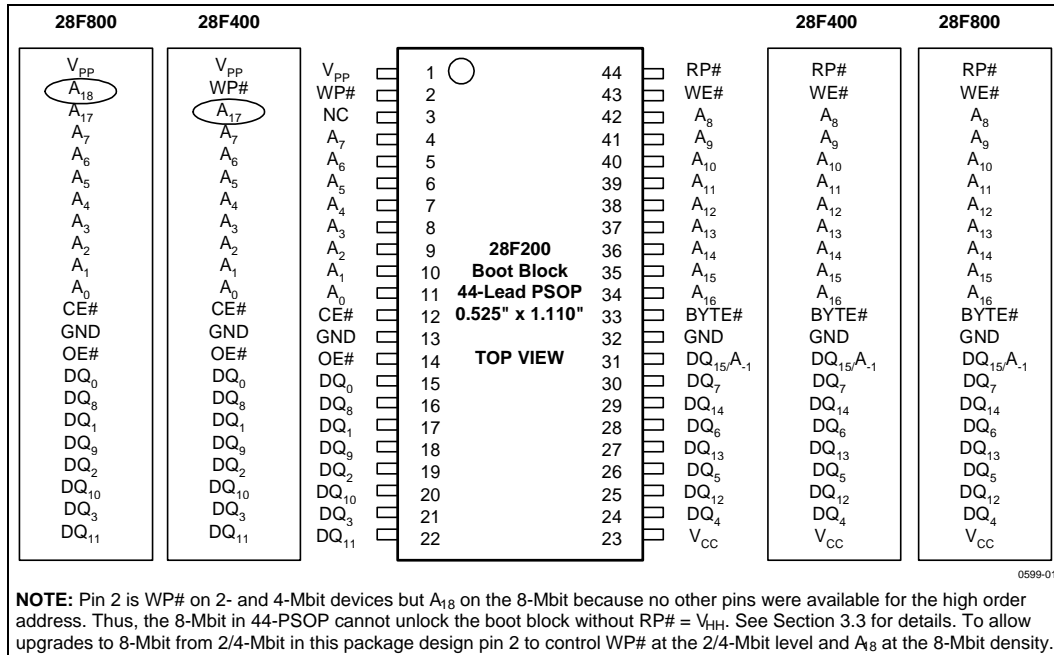
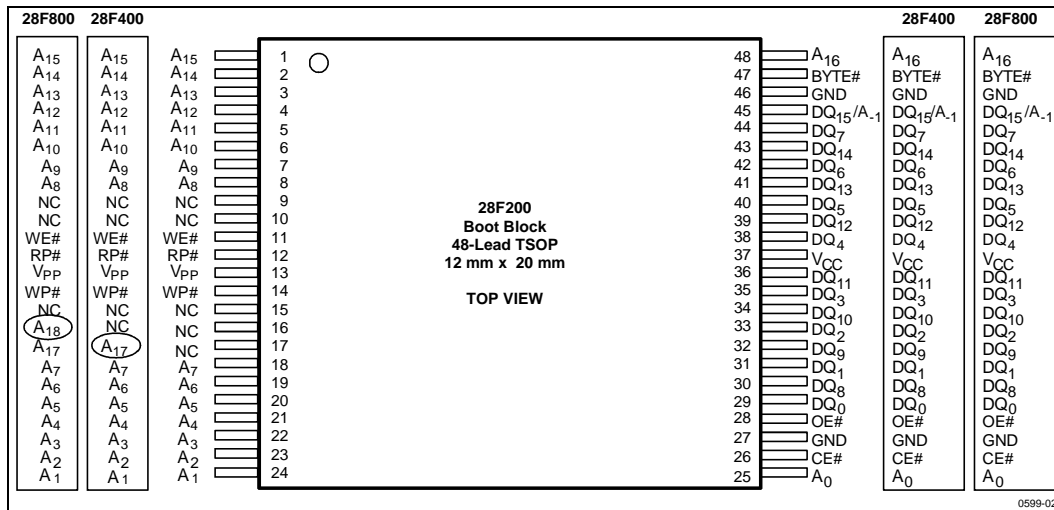

Figure 1. 44-Lead PSOP Pinout Diagram
Figure 2. 48-Lead TSOP Pinout Diagram
-002	Minor changes throughout document. Section 3.1.5 and Figure 14 redone to clarify program/erase operation abort. Information added to Table 2, Figure 1, and Section 3.3 to clarify WP# on 8-Mbit, 44-PSOP. Read and Write Waveforms changed to numbered format. Typical numbers removed from DC Characteristics and Erase/Program Timings.
-003	Minor text changes throughout document. Figure 1, 44-PSOP pinout: mistake on pin 3 on 2-Mbit pinout corrected from A ₁₇ to NC. Specs t _{EHQZ} and t _{GHQZ} improved. Explanations of program/erase abort commands reworked in Table 6, Command Codes.
These 5 Volt Boot Block Flash memory products are available in the 44-lead PSOP (Plastic Small Outline Package), which is ROM/EPROM-compatible, and the 48-lead TSOP (Thin Small Outline Package, 1.2 mm thick) as shown in Figure 1, and 2, respectively.
Intel® 5 Volt Boot Block Flash architecture provides upgrade paths in each package pinout up to the 8-Mbit density. The 44-lead PSOP pinout follows the industry-standard ROM/EPROM pinout, as shown in Figure 1. Designs with space concerns should consider the 48-lead pinout shown in Figure 2. Applications using an 8-bit bus can use the 40-lead TSOP, which is available for the 4-Mbit device only.